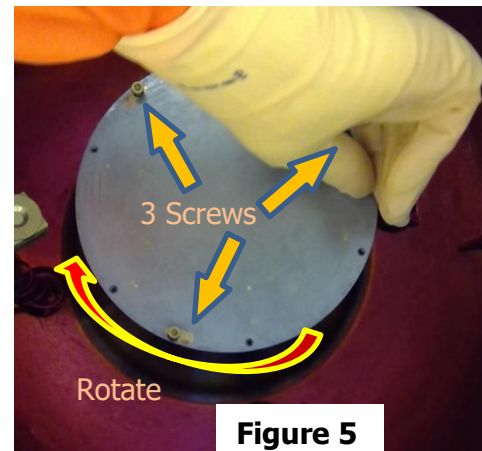

Figure 5
- 4.6.6 If the sample block is attached to the machine, it can be removed by loosening the 3 thumb screws approximately 1.5 turns, and then rotate the block clockwise about 10° until the block is free and able to lower straight down. (Figure 5)